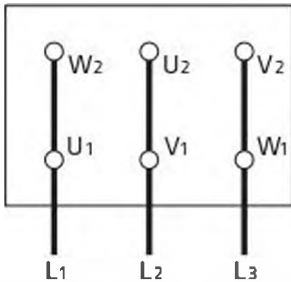

Figure 11a. Δ - connection
- The mains connection on the terminal box depends on the nominal power of the motor, the power supply and the type of connection. The necessary connection of the bridges in the terminal box is shown in the following (*Table 3* ve *Figure 11a, 11b, 11c*).